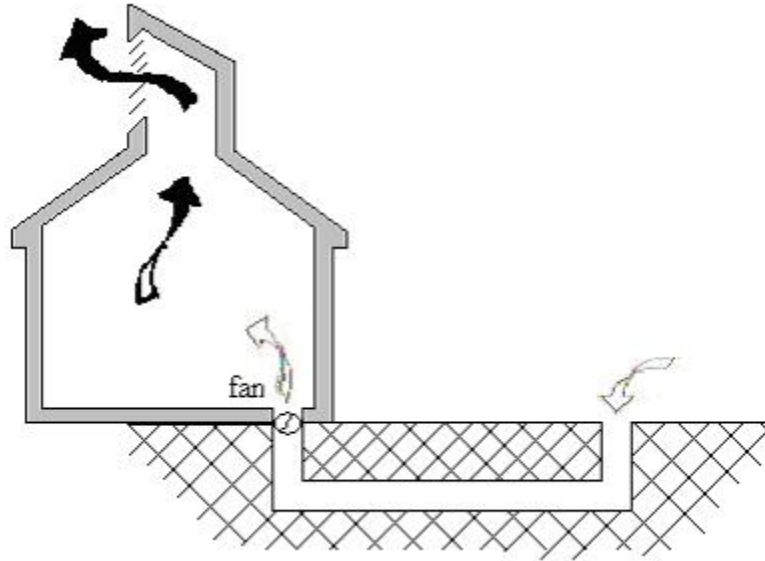

Figure 9. Earth Tube Cooling of Incoming Air for Ventilation
a) **Earth tubes** can be used to cool the air coming into the house for ventilation in the cooling season, as illustrated in Figure 9. The warm outside air gives up heat to the cooler surrounding earth and is thus cooled before entering the house. The same earth tube could be used to preheat air coming into the house in the heating season. The ground several feet down remains cooler than the outside air in the summer and warmer than the outside air in the winter.